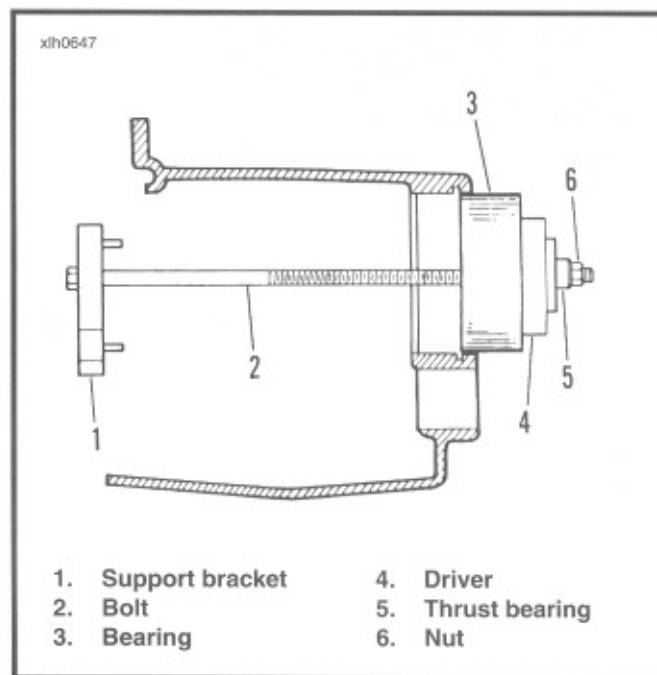

Figure 6-51. Installing Mainshaft Ball Bearing
2. See Figure 6-51. Insert bolt (2) through cross plate (1), new bearing (3), driver (4) and thrust washer (5). Thread nut (6) on end of bolt. Tighten nut carefully until bearing is started in bore squarely. Tighten nut (6) until bearing is seated against shoulder in bore.